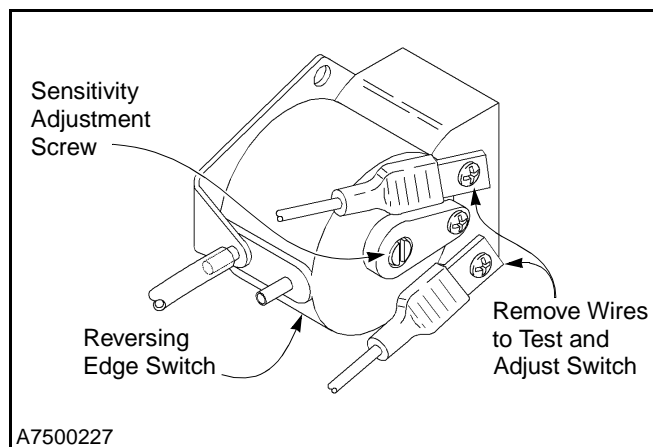

Figure 34
1. Remove the wires from the two contact terminals and attach an ohmmeter across the terminals. (See Figure 34.)